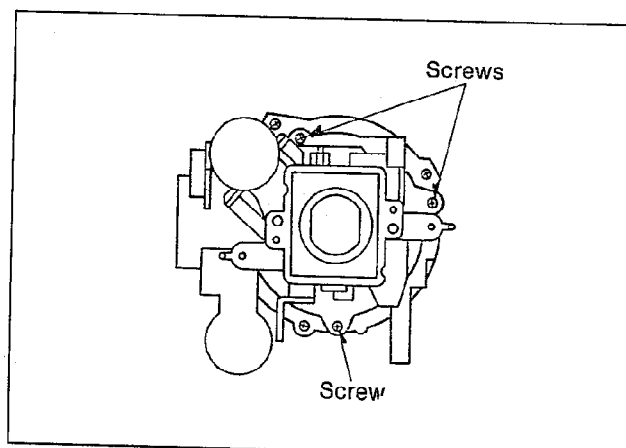

Fig. C5
- (2).Set the unit lengthwise that surface of Lens look down and remove the 3 screws as shown in Fig.C5.